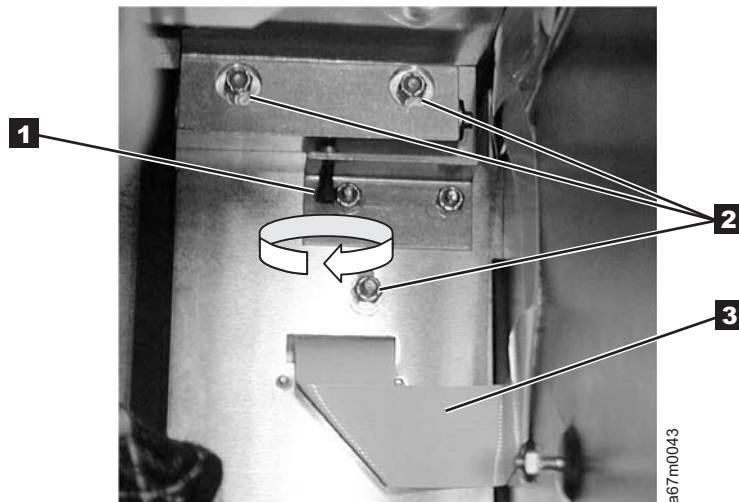
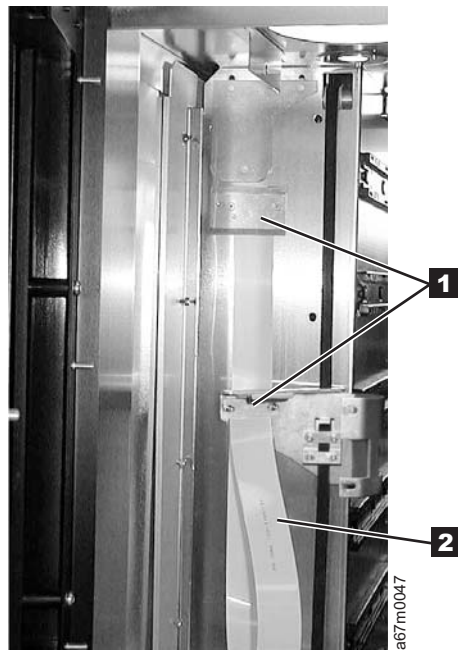

Figure 8-16. Tensioning screw and Ny-lock nuts
Figure 8-19. Y-Axis Flex Cable Removal and Replacement
15. See Figure 8-16. Loosen three Ny-lock nuts **2** (11/32 Nut driver) then loosen the tensioning screw **1** (T20 Torx driver) to release the belt tension. Do not remove the tensioning screw or Ny-lock nuts. **You may have to loosen the two Phillips screws holding the Flex Cable clamp plate **1** shown in Figure 8-19 on page 8-24 to loosen the belt tension.**
16. See Figure 8-16 on page 8-20. If you tightened three Ny-lock nuts **2** after releasing the tension in step 15 on page 8-20, proceed with step 17. If you did not tighten three Ny-lock nuts go to step 18.
19. Adjust the tension screw **1** clockwise (T20 Torx driver) to increase belt tension. Belt tension is properly adjusted when Picker Assembly takes approximately two seconds to drift from top of chassis to bottom of chassis. Check Picker Assembly for full travel. Picker Assembly casting should touch top of chassis and bottom of chassis at upper and lower extremes of travel. Tighten the three Ny-lock nuts **2** when tension is properly adjusted. **If you loosened the two Phillips screws holding the Flex Cable clamp plate **1**, see Figure 8-19 on page 8-24 tighten them now.** If you were sent here from another procedure to do this step return to that procedure now.
See Figure 8-19 for locations of components in the following procedure.
2. Remove the two Cable Clamp Plates **1**, see Figure 8-19.